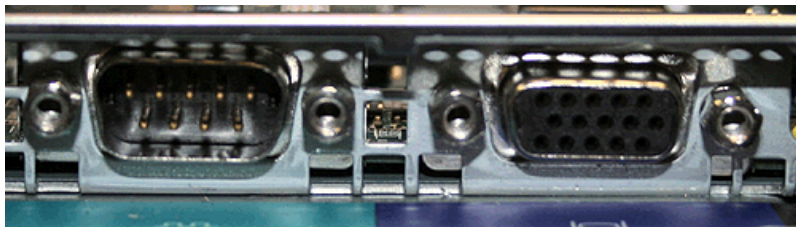

Figure 211. Serial and video ports on the SAN Volume Controller 2145-8G4
3. Replace the four stand-off screws from beside the I/O ports at the rear of the server. Figure 211 shows the location of the stand-off screws.